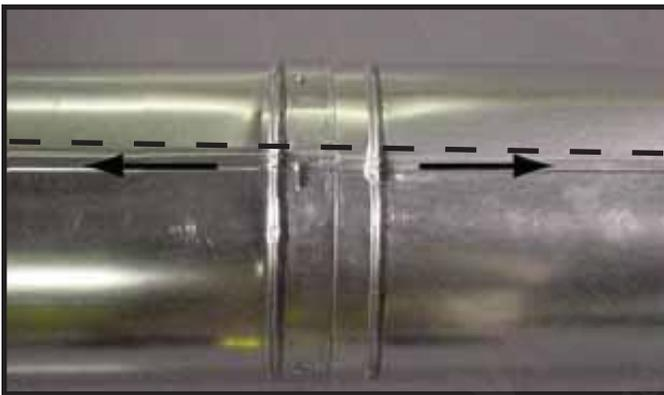

Figure 10.8 Align and Disassemble Vent Sections
- Rotate either section (see Figure 8.7) so the seams on both pipe sections are aligned as shown in Figure 10.8.